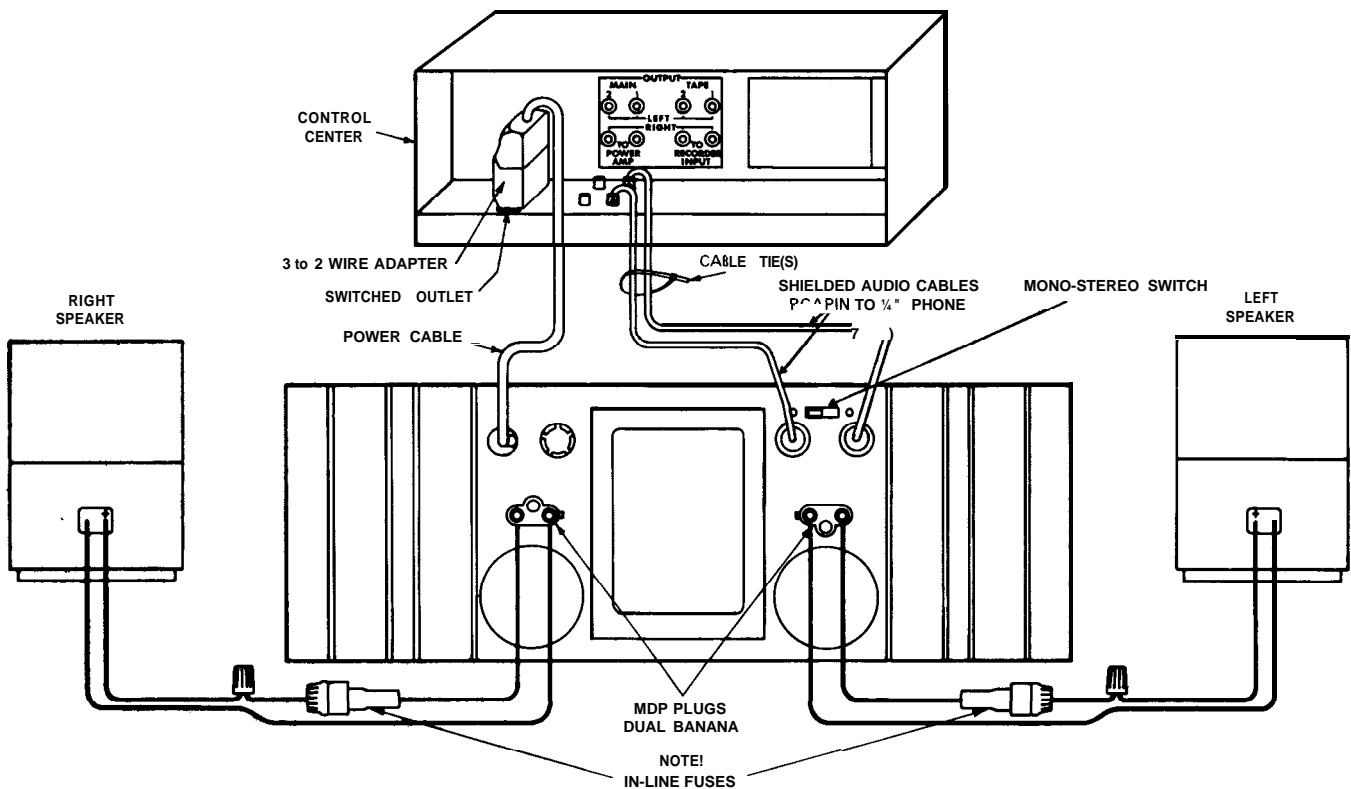

FIG. 2-2
1. Remove output covers, exposing dual binding-posts. Two-conductor speaker cables must connect to the OUTPUTS using terminal lugs, tinned ends, or the special "banana" plugs supplied with the DC-300A. Connect the in-line fuses as recommended in the Accessory Bag and Fig. 2-2. (Not needed with CROWN speakers.)
A mono-stereo switch on the rear panel adjacent to the input jacks, allows the DC-300A to be operated normally (stereo) or in mono, with no internal modification. (See figure 2-2.) When in the mono position, the input circuitry of the DC-300A is changed so that the two amplifiers are "added" for mono output. (See mono specifications, page 3).
On each heat sink (see Fig. 2-2) is mounted a thermal switch which protects the amplifier against insufficient ventilation. If either heat sink becomes too hot, the AC line power will be interrupted until the temperature falls to a safe level, whereupon power will be automatically restored. When such an event occurs, the external symptoms are: no indication of AC power (by the pilot), and a warm front panel.